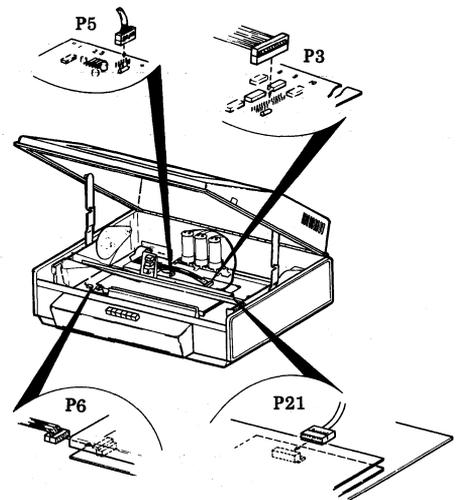

Fig. 15—P3, P5, P6 and P21 Connectors
- (c) Unplug P3, P5, P6 and P21 connectors from the circuit card (Fig. 15).